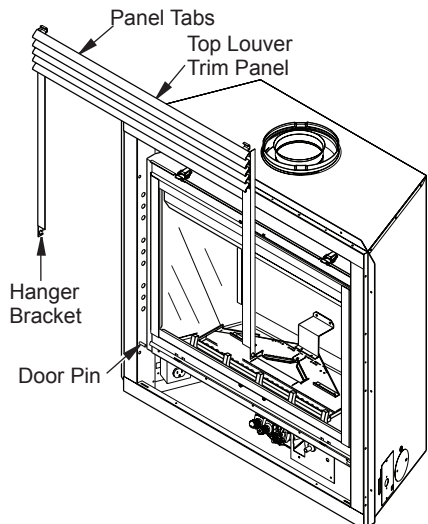

Figure 56 - Removing Top Louver Trim Panel
1. Grasp the two hanger brackets at the bottom and pull up until the hanger brackets release from the door pins (see Figure 56).
2. Remove the top louver trim panel (see *Removing Top Louver Trim Panel* and Figure 56, page 29).